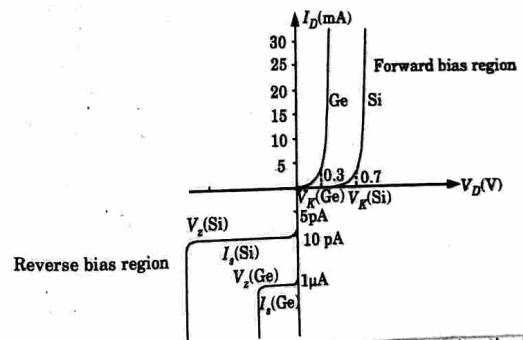

Fig. 3.17.1. Volt-ampere characteristics of p-n junction.
3. As the forward applied voltage increases beyond threshold voltage, the forward current rises exponentially as shown in Fig. 3.17.1.
3. In practical, a small current of the order of μA flows in the circuit due to minority carriers. This is known as reverse current. The reverse current is shown in Fig. 3.17.1.